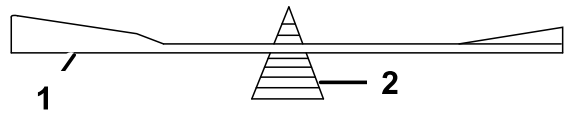

Figure 113
2. Check the balance of the blade by putting it on a blade balancer (Figure 113).